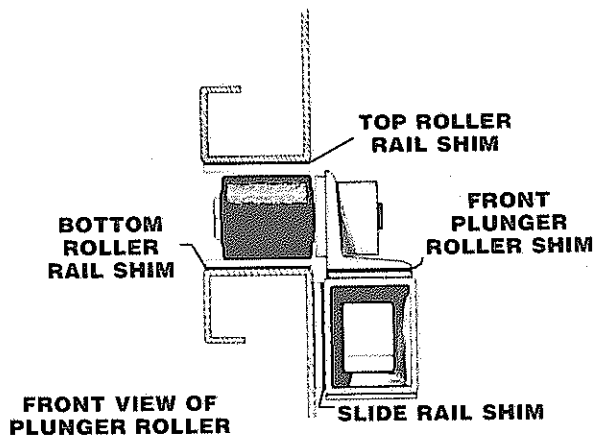

Fig. 33A
CAUTION: Avoid serious equipment damage of the knives colliding while adjusting the plunger by ensuring there is adequate clearance between stationary and plunger knives. Do this by removing or inserting shims under the bottom roller rails, see **Fig. 33A**.
If the needle slots in the plunger are orientated at an angle in the chamber, the plunger will have to be raised or lowered on one side or the other by removing or inserting shims under the bottom roller rails, see **Fig. 33A**.
To further adjust plunger horizontally, remove or insert shims behind the plunger slide rails, see **Fig. 33A**. Shim the left side to move plunger to right and visa/versa. Shim the plunger side rails with only a $\frac{1}{32}$ " between them and the bale chamber. Ensure the plunger is not bound or restricted anywhere in its area of travel.
The front plunger rollers are adjusted vertically by shimming, see **Fig. 33A**. Use the manual control to slowly cycle the plunger and observe roller activity to see if all four rollers are touching at one time or another the bottom plunger roller rails. If not, adjust the front rollers by shimming them up or down until all rollers are touching. Rear rollers (on the face end of the plunger) are not adjustable.
Step 3. Shim the top plunger roller rails, see **Fig. 33A**, to be approximately a $\frac{1}{16}$ inch from the four plunger rollers. After adjusting top rollers rails, use the manual control to slowly cycle the plunger to ensure the rollers do not bind anywhere in their area of travel.